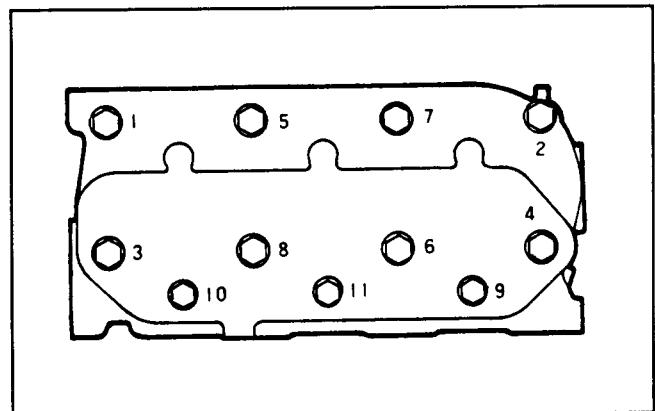

Figure 60b
9. Loosen the cylinder head bolts. Use the sequence shown in Figure 60b. Remove the cylinder head assembly including the intake and exhaust manifolds.